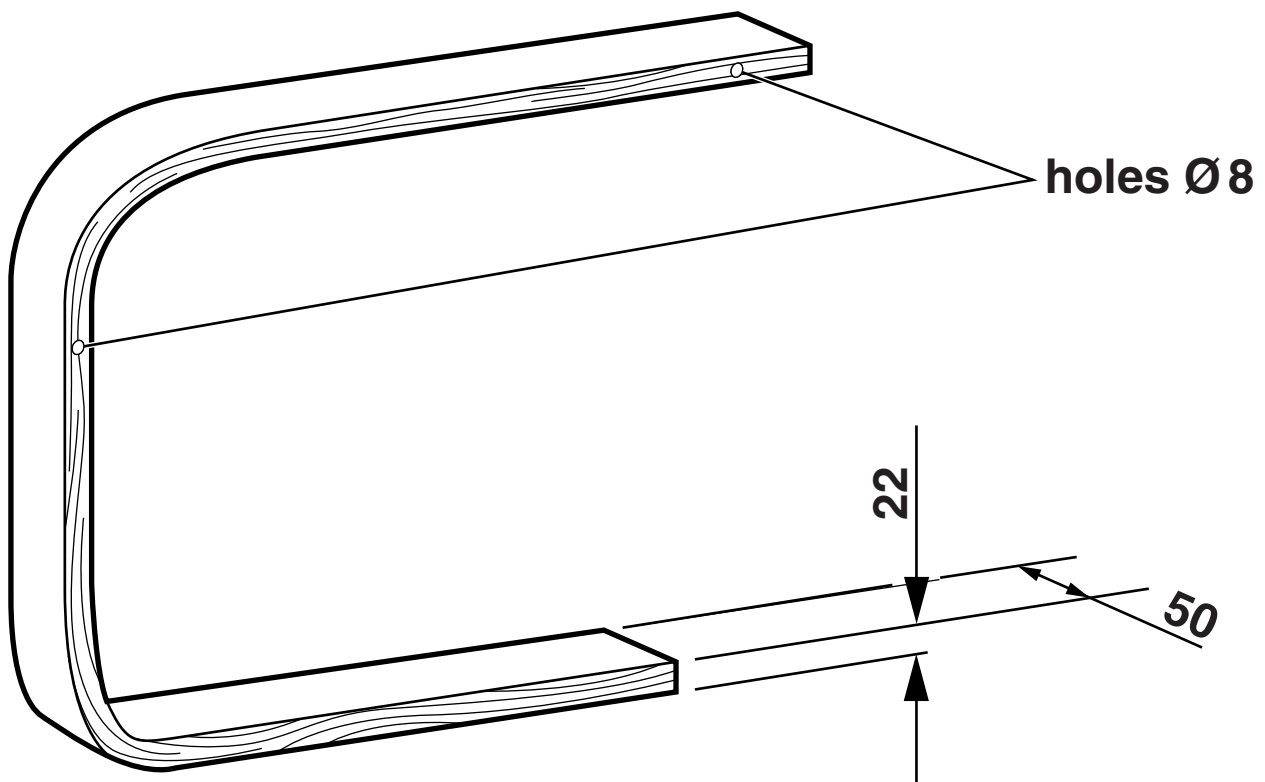

Fig. 7
Fig. 7 shows one of the wooden side frames for the chair.
- (e) (i) State a SUITABLE SPECIFIC MATERIAL for the side frame shown in Fig. 7. Give TWO properties or characteristics that make the material suitable for this use.**
(ii) Describe, in detail, how the side frame shown in Fig. 7 would be manufactured as a batch of 5000.